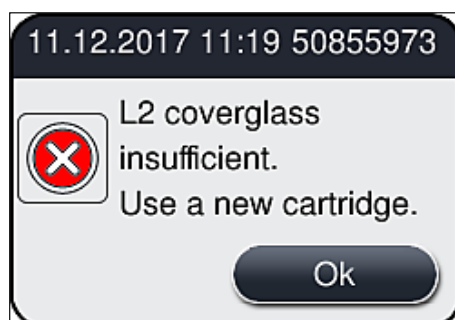

Fig. 55
- If a consumable is used up, a corresponding warning message is sent to the user, for example (→ Fig. 55).